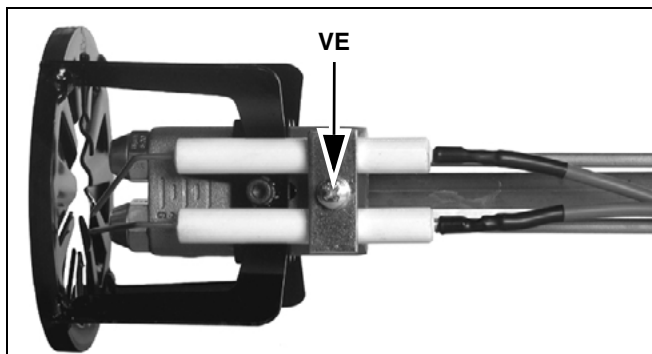
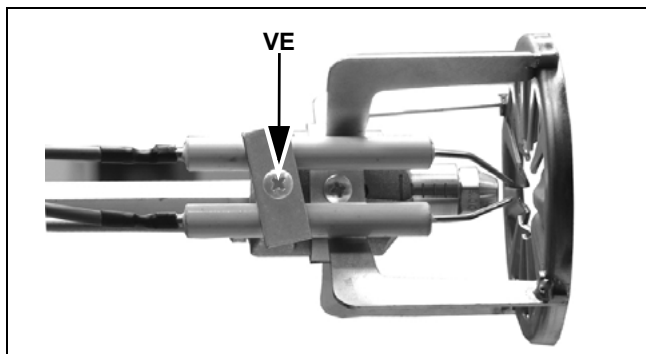

Fig. 59
Fig. 60
- Withdraw the screw **VE** and remove the electrodes from the support (Fig. 59 - Fig. 60).